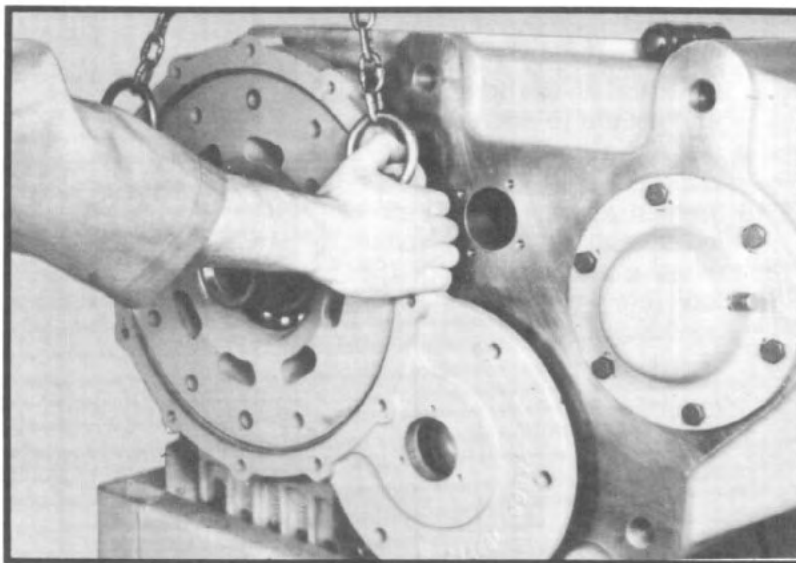
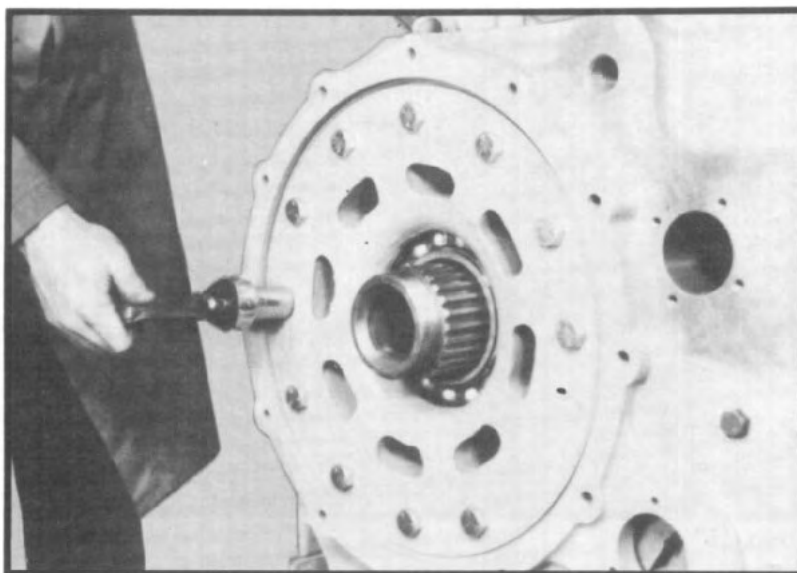

Fig. 147
Fig. 148
- 3.13 Install large diameter o-ring into face plate, if o-ring is being replaced. Using a chain hoist, install rear face plate and gasket to housing by first inserting the face plate into the lower shaft rear bore and tapping the face plate flush against the housing. (See fig. 147.) Rotate the face plate to the proper position and bolt face plate to housing with 15 capscrews. (See fig. 148.)